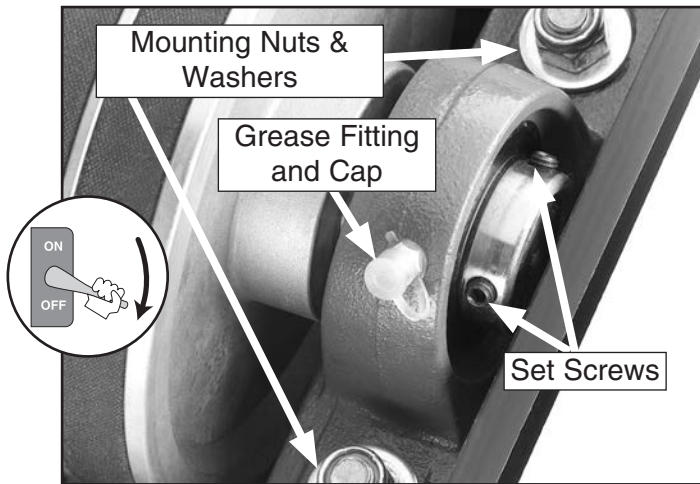

Figure 46. Pillow bearing mounting nuts, washers, and set screws.
2. Open the top cover, and remove the mounting nuts, washers, and set screws shown in **Figure 46**.
- Insert the new bearing into the bearing housing so the set screws and hub are on the same side as the grease fitting on the bearing housing (**Figures 46 and 50**).